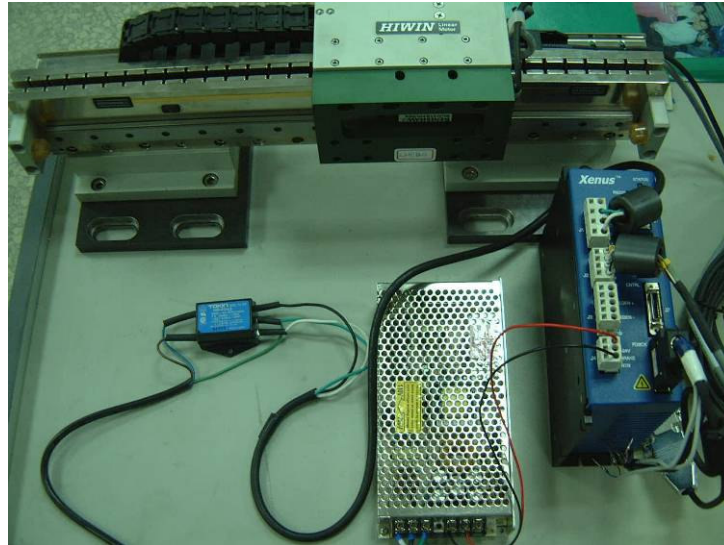

Fig. 3 Motor and driver actual connection
- Confirm motor base plate is securely fixed, then turn on 24VDC power. Connection diagram shown in Fig. 3.